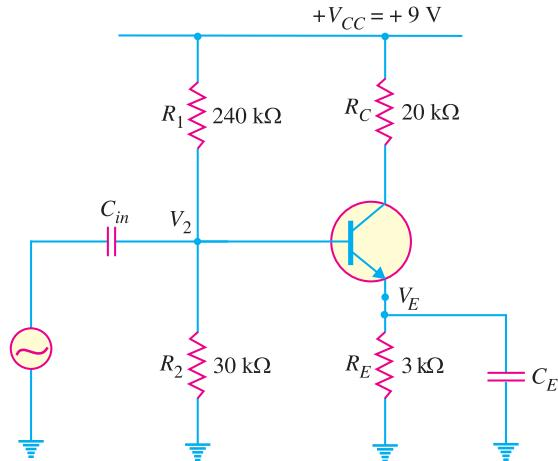

Fig. 10.31
**Example 10.16.** For the circuit shown in Fig. 10.31, find (i) a.c. emitter resistance (ii) voltage gain (iii) d.c. voltage across both capacitors.